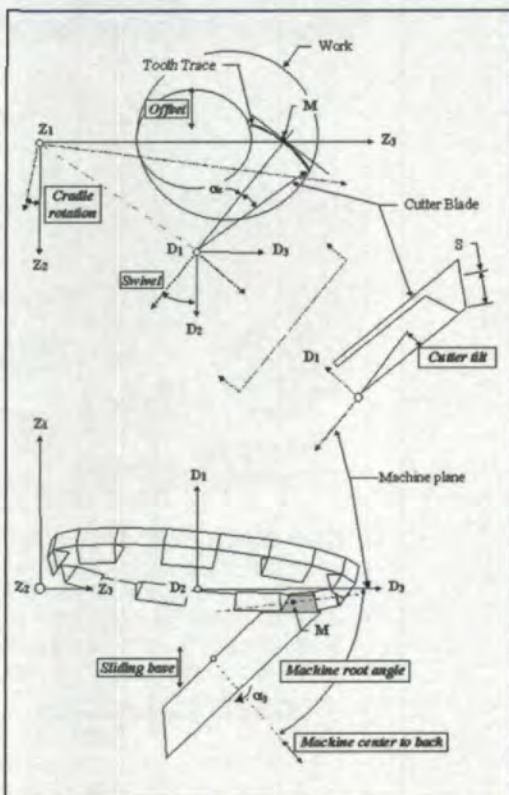

Fig. 1—Reference frames for the simulation of gear manufacturing.
When applied using the reference frames depicted in Figure 1, Equation 1 yields a generated surface in the reference frame attached to the workpiece. The obtained surface equation is a function of three variables  $\alpha_c$ ,  $\alpha_3$  and  $S$ , respectively the cutter angular position, the work roll angle and the position of a point along the cutter blade edge:
2. cutter tilt and swivel angles, shown in Figure 1;
3. work position, normally called offset, sliding base and machine center to back, Figure 1; and
The actual values in machine setting changes are not reported since the sensitivity of the error surface depends on the actual geometry. Figure 1 may be consulted to link the changes in machine settings to the simulation model.